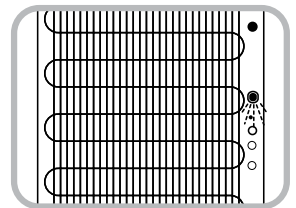

Fig.4
9. Turn counterclockwise to open the drain cap and drain the water from the tanks. Do not tilt the unit to drain the water. (Fig. 4)